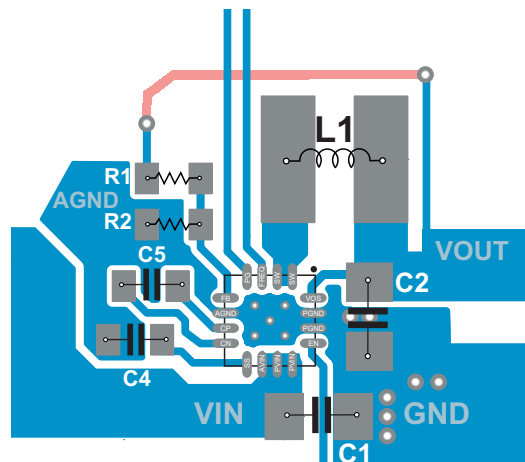

图 29. TPS6209x Layout
- Refer to 图 29 and the evaluation module User Guide (SLVU670) for an example of component placement, routing and thermal design.